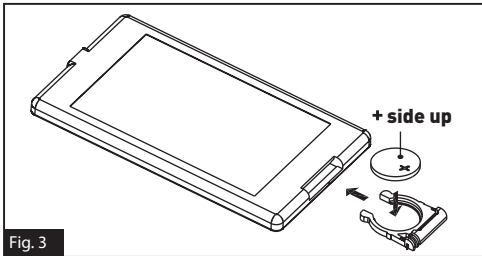

Fig. 3
3. Replace the old battery with a new one, with the (+) polarity side upward. (Fig.3)
4. Insert the battery holder into the original position in the remote control. (Fig.3)